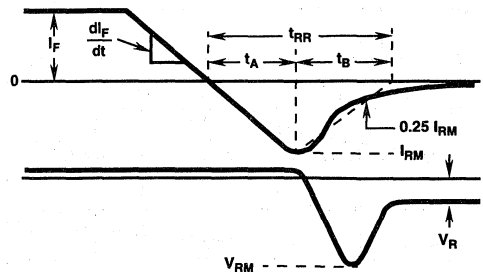

FIGURE 2.  $t_{RR}$  WAVEFORMS AND DEFINITIONS
- $t_{RR}$  = Reverse recovery time (See Figure 2), summation of  $t_A$  +  $t_B$ .
- $t_A$  = Time to reach peak reverse current (See Figure 2).
- $t_B$  = Time from peak  $I_{RM}$  to projected zero crossing of  $I_{RM}$  based on a straight line from peak  $I_{RM}$  through 25% of  $I_{RM}$  (See Figure 2).